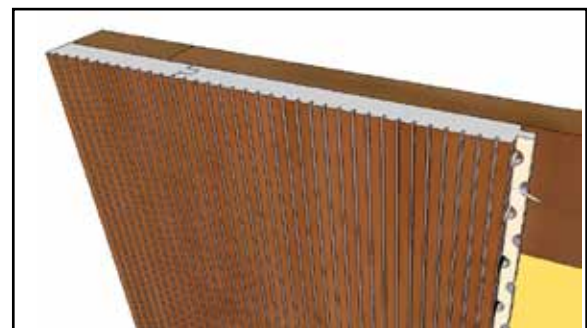

Figure 6
- Nail the tongue with finishing nails into the horizontal blocking at a 45 deg angle. (Figure 6)